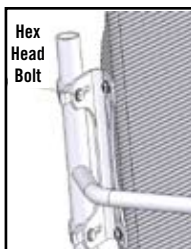

Figure 2
**Step 3:** Place the JetStream Pro in between the four adjustable bracket clamps and insert the four hex head bolts in the desired mounting hole as shown in Figure 2.
**Step 5:** To adjust for seat depth, slide the backrest forward or back using the slots shown in Figure 2.
**Step 6:** Angle adjustments are also made by sliding the backrest within the slots shown in Figure 2.